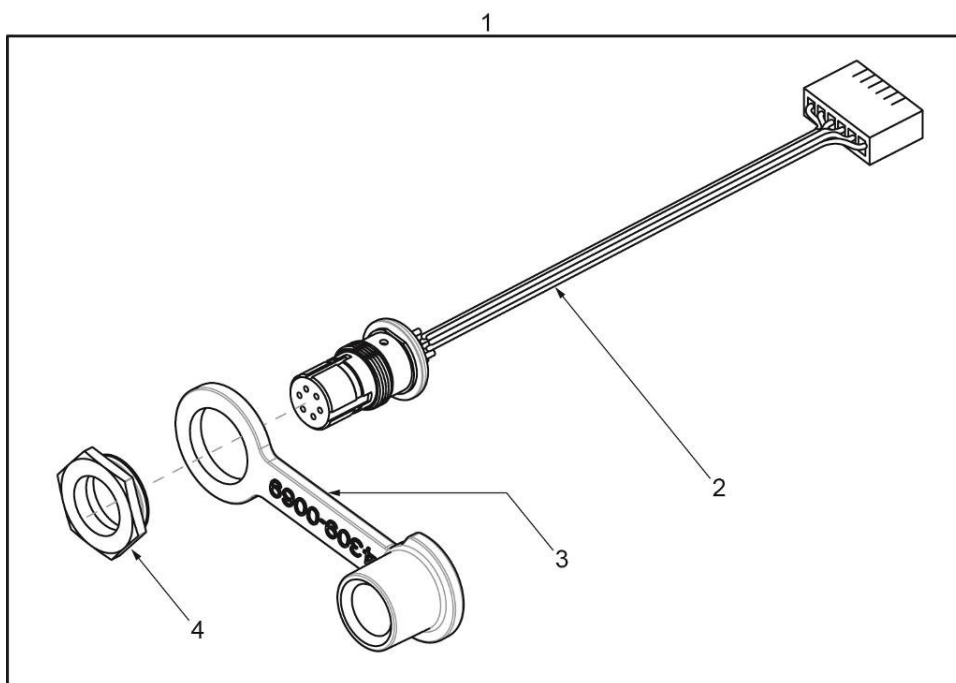

Figure 97: Wiring Loom Earset Kit
- Position the speaker assembly and insert the four (4) screws (12mm).
- a. The wiring loom earset is a line replaceable unit and is available as a service kit, 3004-0058 Wiring Loom Earset Kit that includes associated parts. Figure 97 illustrates the major parts of the wiring loom earset.